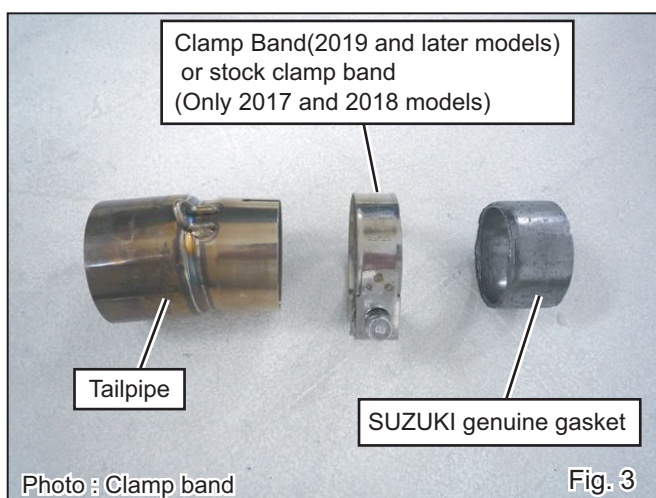

Fig. 3
- 4) Install SUZUKI genuine gasket into Tailpipe and attach either Clamp Band (2019 and later models) or stock clamp band (2017 and 2018 models) (See Fig. 3).